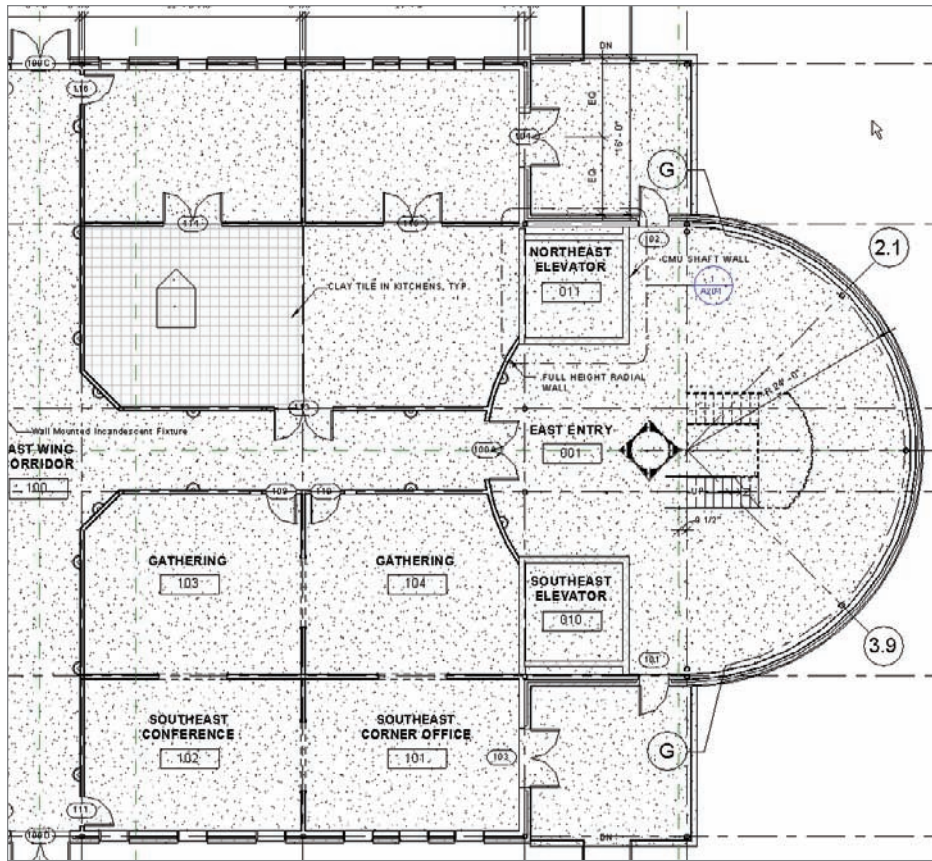

FIGURE 15.7 Renaming the office
3. Pick the large area to the right of the women's lavatory, as shown in Figure 15.7.